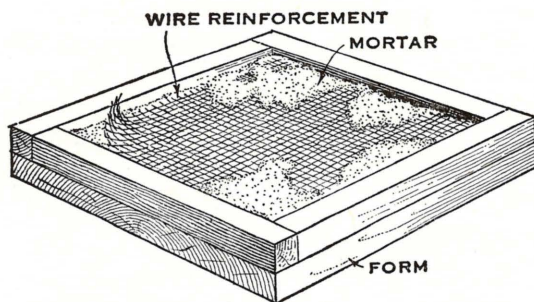

Fig. 519—Placing the wire reinforcement in a half-filled form
6. Lay wire reinforcement in the form. Press it down into the concrete, but do not allow it to touch the form at any point. (See Fig. 519.)